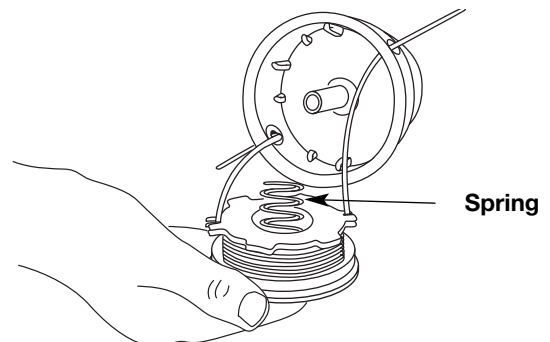

Fig. 20
- Insert the ends of the line through the eyelets in the outer spool and place inner reel with spring inside the outer spool (Fig. 20). Push the inner reel and outer spool together. While holding the inner reel and outer spool, grasp the ends and pull firmly to release the line from the holding slots in the reel.
5. Insert the ends of the line through the eyelets in the outer spool (Fig. 20).